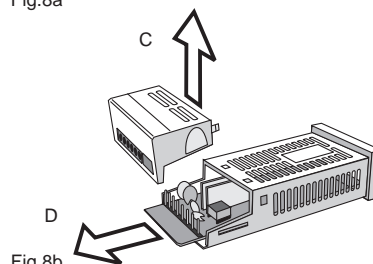

Fig.8b
- 3) Unplug the terminal block cover (see Fig.8b [C]).
- 4) Slip out the instrument completely (see Fig.8b [D]).